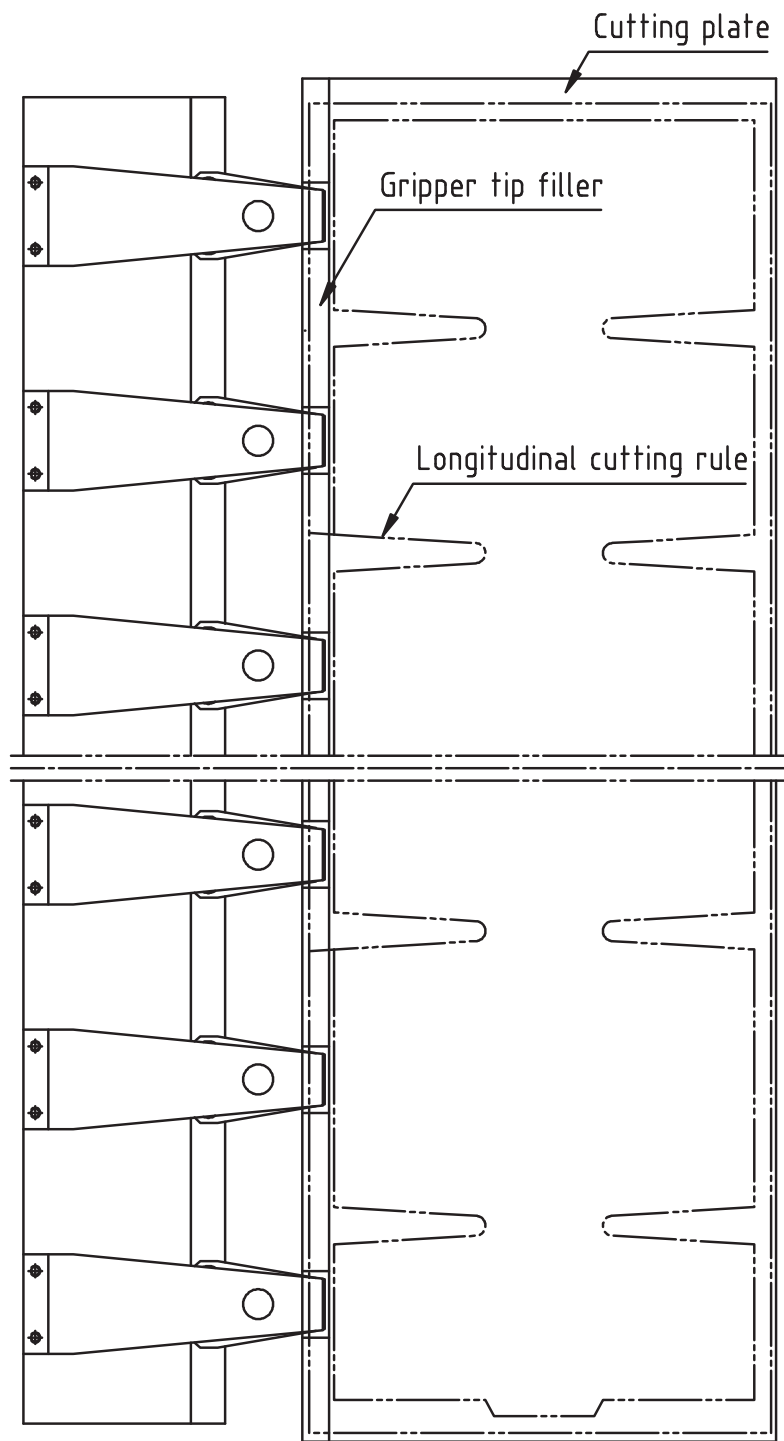

Fig 6.18
- 1) Extend any of the longitudinal cutting rules to the edge of the cutting chase to break gripper bite waste. Several longitudinal cutting rules can be extended and located in necessary spots. (Fig6.18)